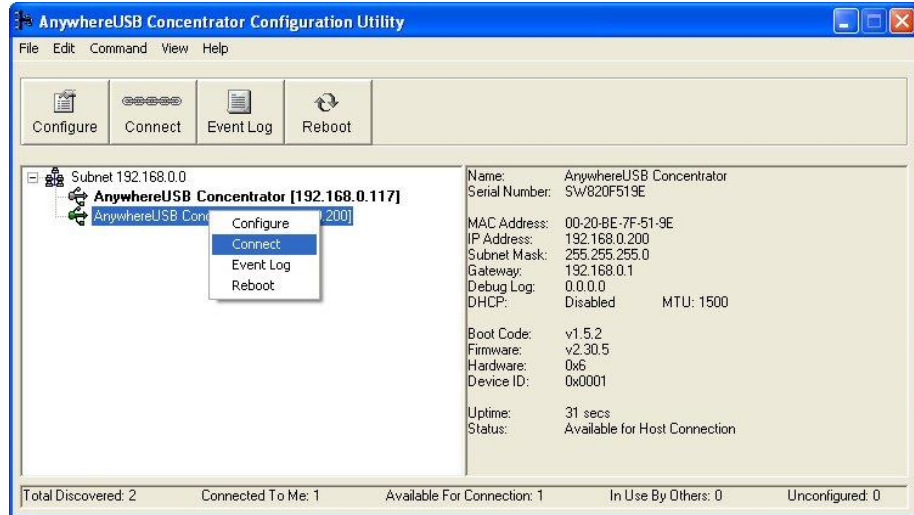

Figure 8
2. Select an AnywhereUSB from the AnywhereUSB Configuration Utility Main Window and then either click the **Connect** button or right click on the selected AnywhereUSB and click **Connect** from the drop down box (see Figure 8). The host computer then attempts to connect to the AnywhereUSB.